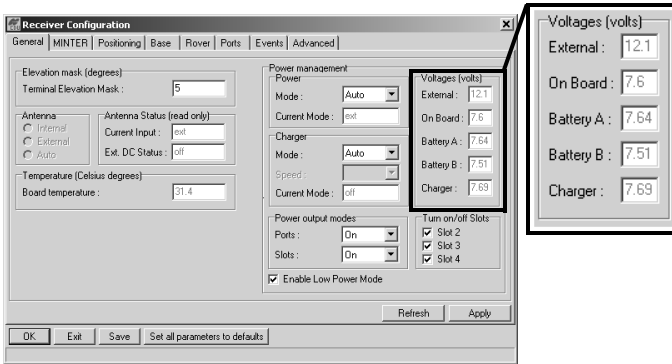

Figure 2-5. View Voltages Information
7. View the *Voltages* information (Figure 2-5 on page 2-8).